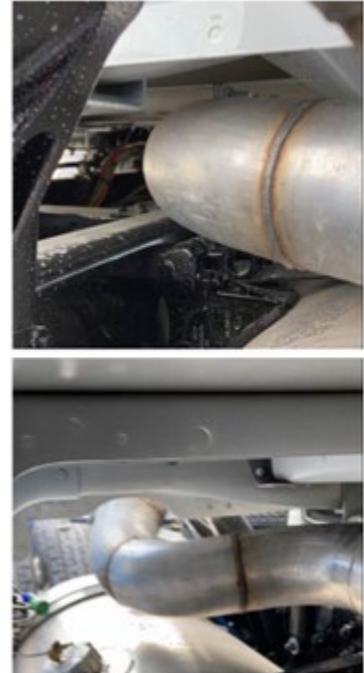

Fig. 9, Final Installation
20. Inspect the final installation; it should look like **Fig. 9**.